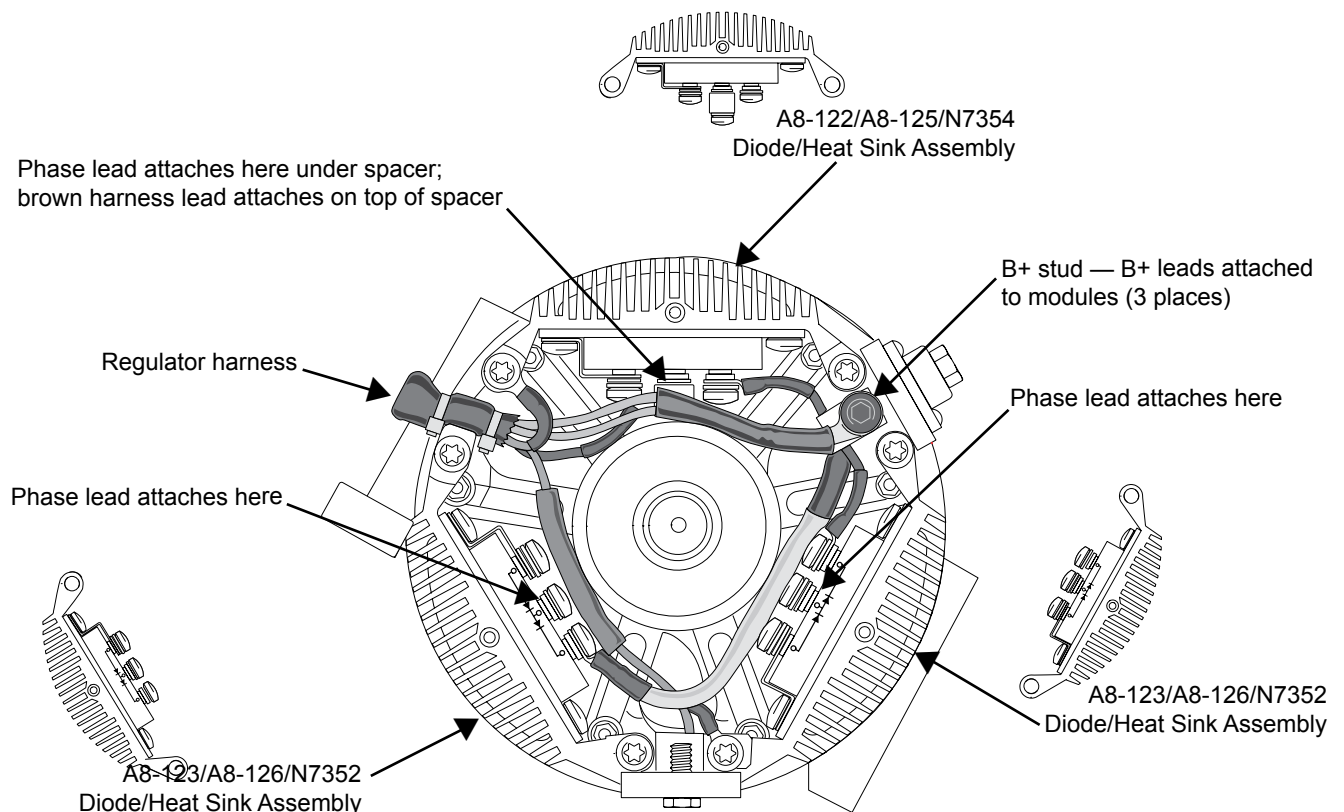

Figure 1 – Diode/Heat Sink Assemblies
5. Install new diode/heat sink assembly in proper location. See Figure 1. Torque heat sink mounting screws to 11.3–13.5 Nm/100–120 lb. in.
- a. Phase lead to each diode module as shown in Figure 1. Torque to 4 Nm/35 lb. in.